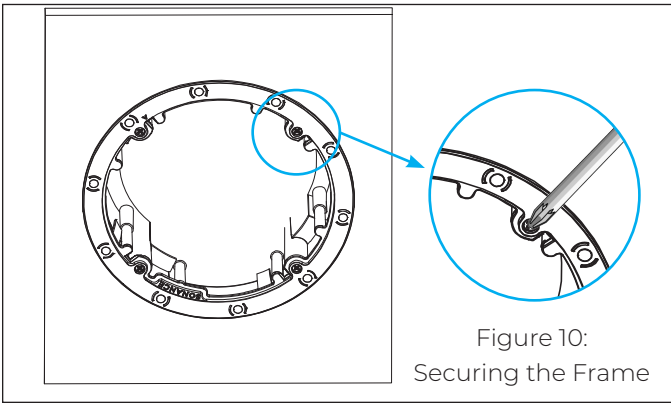

Figure 10:
9. Tighten the four screws on the front baffle to clamp the Roto-Lock toggle feet into position, securing the speaker frame to the surface (see Figure 10).